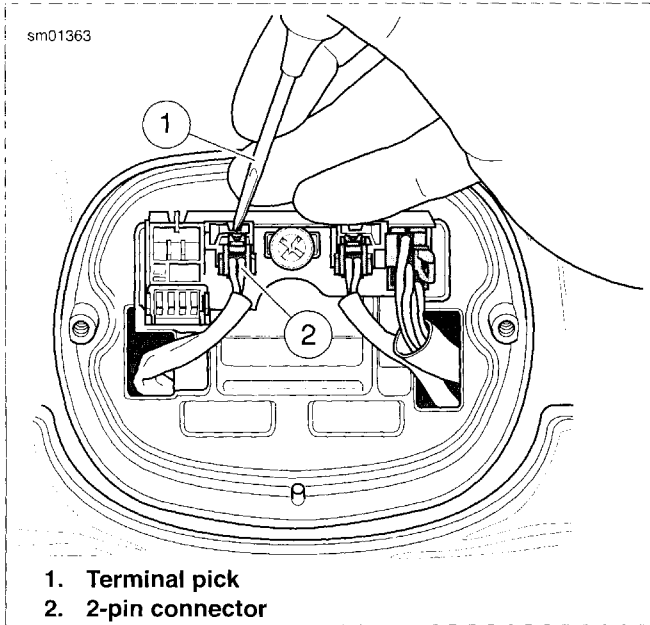

Figure 6-52. Removing 2-Pin Connectors (Typical, XL Models Shown)
4. See Figure 6-52. Using a terminal pick, depress locking tabs and remove two 2-Pin turn signal connectors and 6-Pin Power In connector from circuit board.